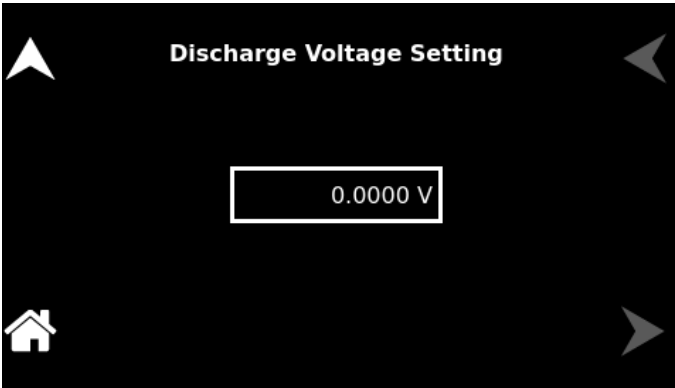

Figure 13-10. Discharge Voltage Setting
**Discharge Voltage**      Users can set the Discharge Voltage value, which acts as the voltage high limit for the supply. The maximum voltage of the battery under test is expected to be entered. Refer to Figure 13-10.